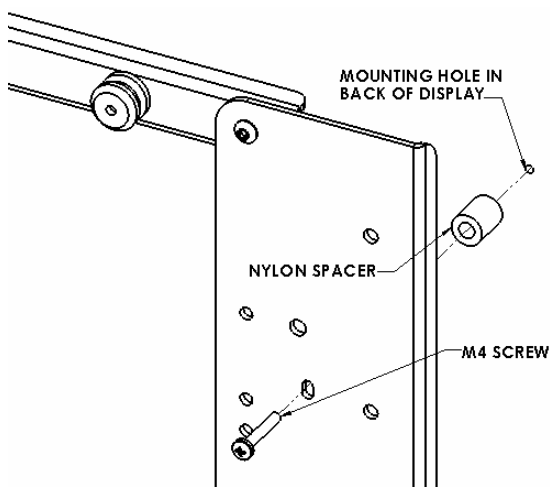
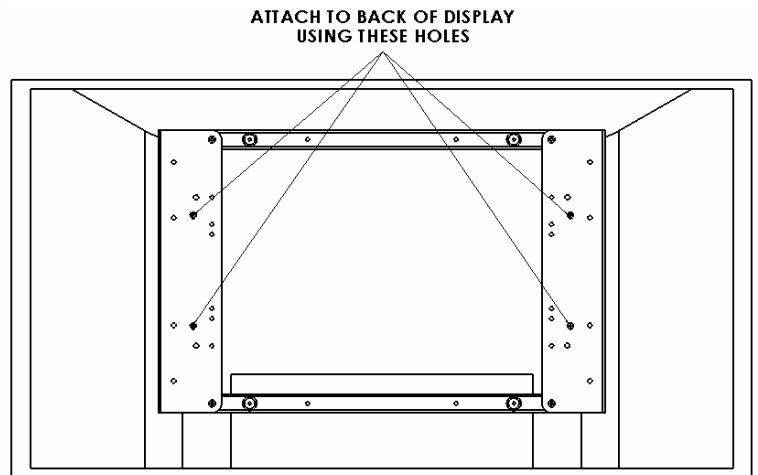

Figure 6
Figure 7
- Place Nylon spacers over mounting holes on back of screen. Attach mounting brackets to display using M4 screws (see Figures 6 & Figure 7).